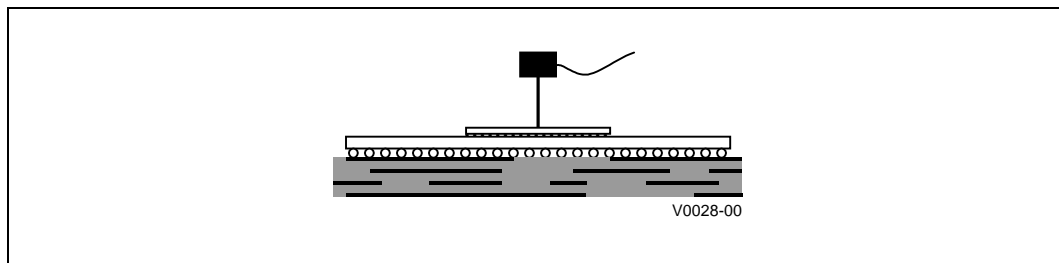

Figure 6.1 Technique for Measuring Case Temperature
- The thermocouple should be attached at a 90° angle as shown in Figure 6.1. A horizontal thermocouple mount is acceptable.